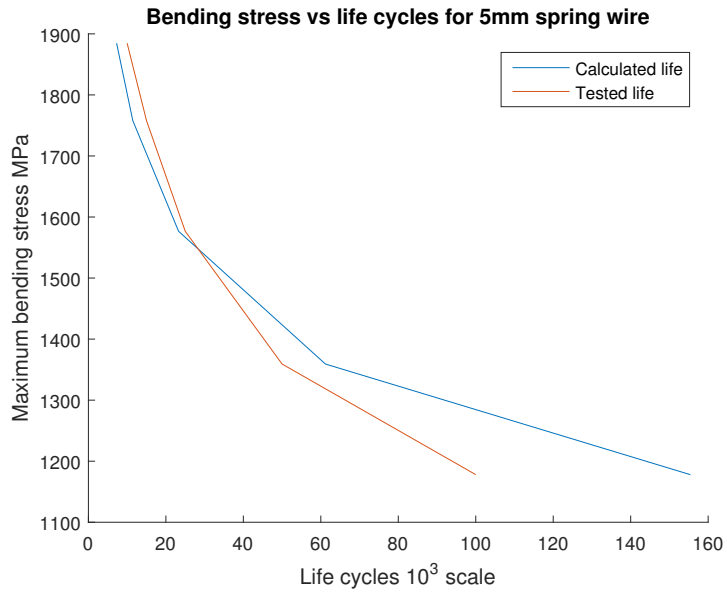
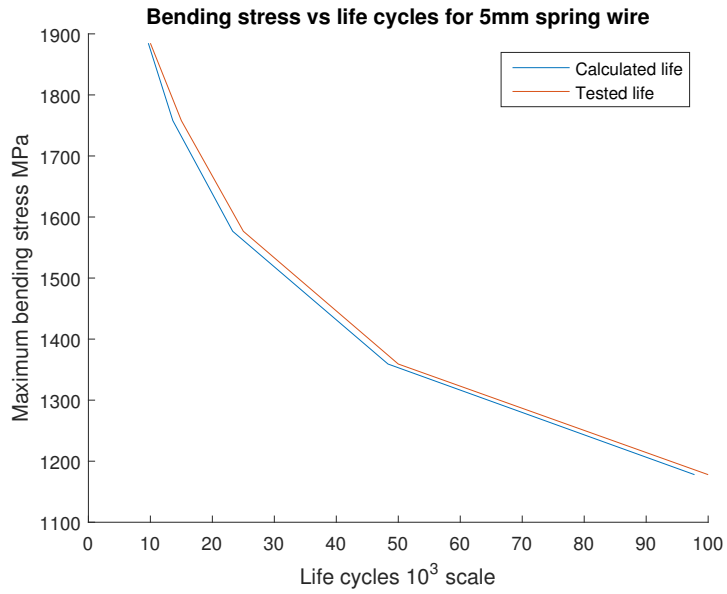

Figure 14: Fatigue comparison 10^3 scale $f = 0.77$, $S'_e = 700MPa$
Figure 16: Fatigue comparison 10^3 scale $f = 0.9$, $S'_e = 0.35S_{ut}$
0.77 [6]. (S'_e) ranges between 40 to 60 percent of S_{ut} . The percentage is affected by how high S_{ut} is. (S'_e) is set at $700MPa$ for S_{ut} greater then $1400MPa$. The results from these calculation can be found in figures 14 and 15 with the x axis scaled with 10^3 and \log_{10} scale respectively for life cycles. On the y axis is bending stress calculated with equation 16. In these examples a spring with 5mm wire diameter, 50.8mm inner diameter and 109 active coils was used.
If f and (S'_e) are modified to $f = 0.9$ and (S'_e) = $0.35S_{ut}$ the difference is very small see figure 16 and 17 for comparison. For the example in figures 16 and 17 a 5mm diameter spring wire is used with $S_{ut} = 1660MPa$ taken from table 8. That gives (S'_e) = $0.35S_{ut} = 494MPa$ instead of $700MPa$ given in figure 14 and 15. These values of f and (S'_e) are however found by iterating until the smallest error exists between test fatigue life and calculated. Thus they cannot be said theoretical. For true difference between test data and theoretical the values of f and S_{ut} should be 0.77 and $700MPa$ respectively. The difference in percentages can be found in table 6. This error was also calculated with $f = 0.9$ and (S'_e) = $0.35S_{ut}$ see table 7. In these tables spring wire diameter 5mm to 10mm with increment of 1mm are compared to test fatigue life ranging from 10.000 to 100.000 cycles. The theoretical life can be under the tested life and above. The error grows with increased diameter and more cycles. Similar results are from the calculated fatigue life with $f = 0.9$ and $S'_e = 0.35S_{ut}$ but with much smaller errors.